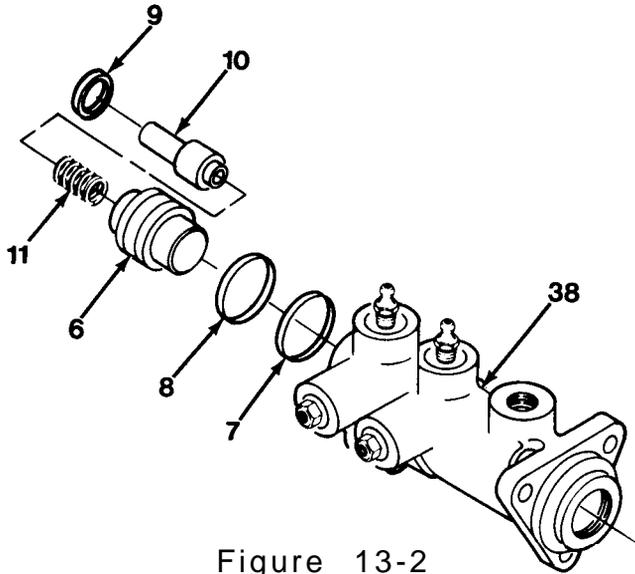
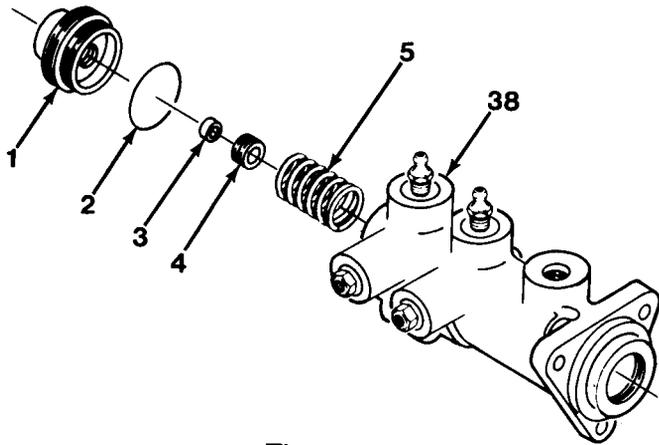

Figure 13-2
Figure 13-1
13. Install spring (11) and stem (10) into piston (6). Secure with retaining ring (9, Figure 13-2).
14. Install new cups (8) and (7) on piston (6).
15. Install piston (6) in housing (38). Note direction of piston (6).
16. Install spring (5) in housing (38, Figure 13-1).
17. Install retainer (4), seat (3) and O-ring (2) on end cap (1).
18. Depress spring (5) and install end cap (1) on housing (38). Torque end cap (1) to 25 to 35 lb-ft (34 to 48 N•m).